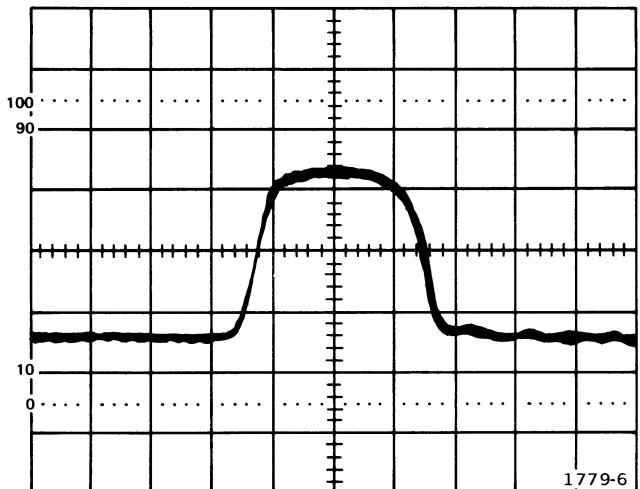

Fig. 6-9. Current waveform when high-speed timing is correctly adjusted.
- g. **ADJUST**—C1253, C1233, R1179, R1185, and R1175 for a symmetrical, flat-top waveform similar to that in Figure 6-9.